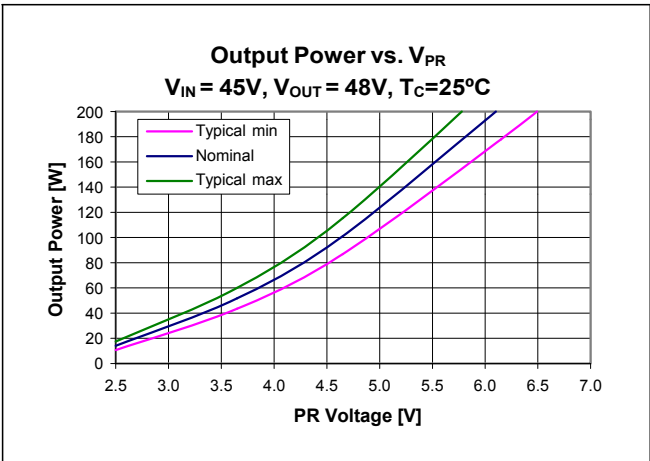

Figure 21 – Output Power vs. V_{PR} ; $V_{IN} = 45\text{ V}$, $V_{OUT} = 48\text{ V}$, $T_{CASE} = 25^{\circ}\text{C}$
Control node (PR) is the input to the control node which determines the powertrain timing and ultimately the module output power (Figure 21). An internal 0.5mA current sink is always active. The bi-directional buffer between PR and the control node has two states. In normal operation, PR will be above the 0.79 V switching threshold, and will drive the control node through the buffer. An internal 7.4 V clamp determines the maximum output power that can be requested of the modulator.